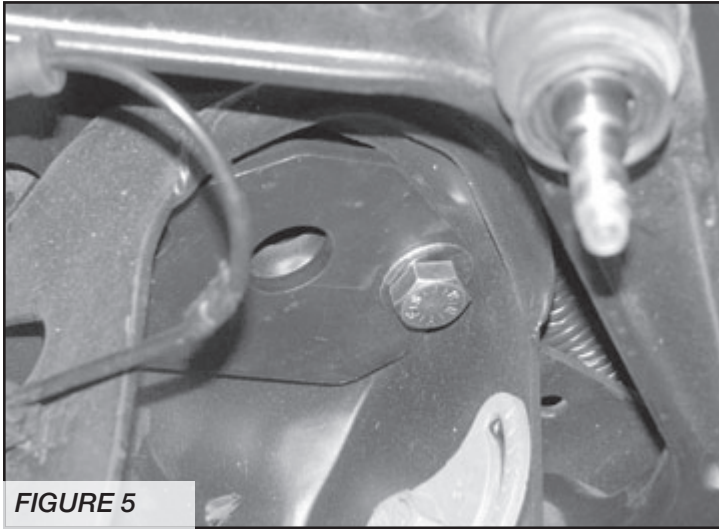

FIGURE 5
11. If installing Dirt Logic shocks, install the upper shock mount (FT20484) into the factory upper shock tower using the using two 9/16"-12 x 1-1/4", washers and lock nuts. Torque to 184 ft-lbs. **SEE FIGURE 5**